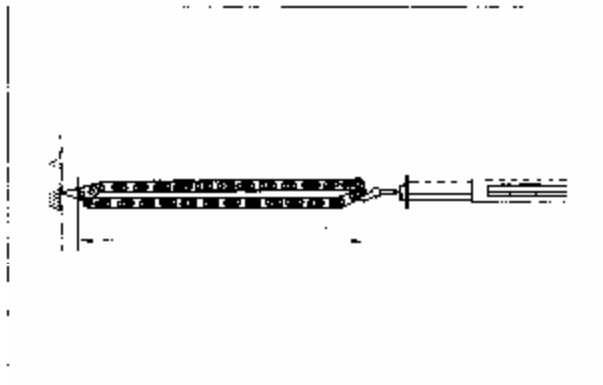

Figure 3-40 Check Timing Chain Length
3.4.5 Check length of timing chain. Using a spring scales(Figure 3-40) to pull (49N) the chain. The maximum chain length is 291.4mm. Select 3~4 measurement points at random to measure. If chain length exceeds the maximum value, chain should be replaced.